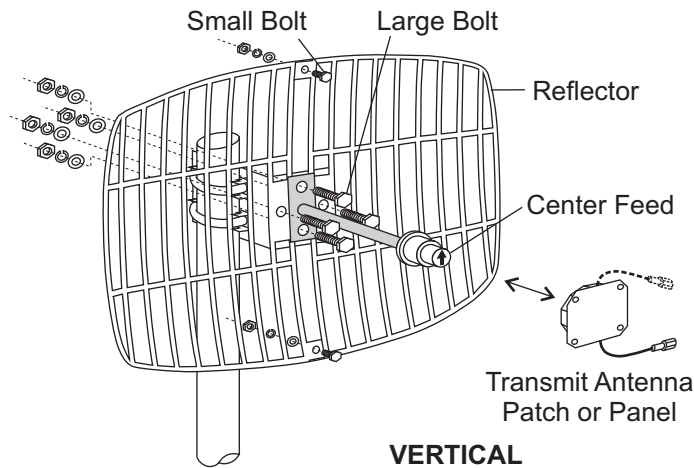
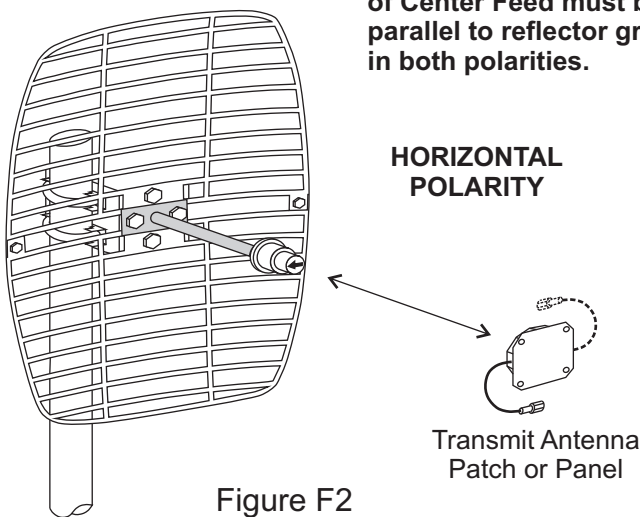

Figure F1
Figure F2
1. Assemble the two reflector halves using the small bolts, flat & lock washers and nuts (2 required for AH-83, 4 for AH-81, Figure F1, AH-83 shown).
2. Determine the polarity of the antenna by referring to Fig. F1 for vertical polarity or Fig. F2 for horizontal polarity. Attach the center feed to the front and the L-bracket to the back of the reflector using the 4 large bolts, flat & lock washers and nuts. Pay attention to the mounting flange of the center feed, which has to be parallel to the grid of the reflector. When changing the polarity of the antenna, remove the 4 large bolts then rotate the center feed and the reflector together 90° around the feed hole on the L-bracket. Reinstall the 4 bolts.